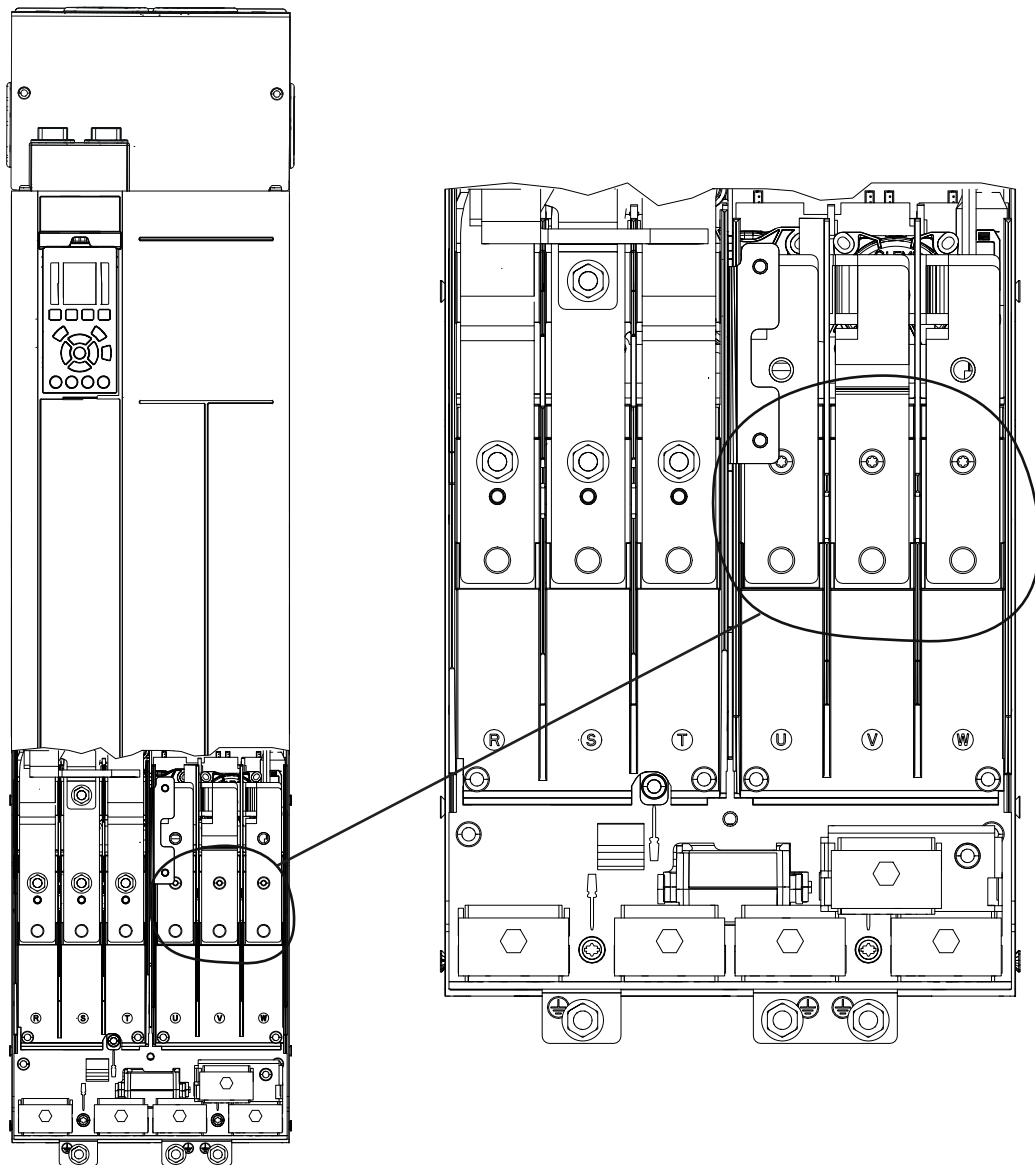

Figure 5.4 Motor Terminals (J8 shown)
3. Connect the ground wire to the nearest grounding terminal in accordance with the grounding instructions provided in *chapter 5.4 Connecting to Ground*, see *Figure 5.4*.
4. Connect the 3-phase motor wiring to terminals 96 (U), 97 (V), and 98 (W), see *Figure 5.4*.